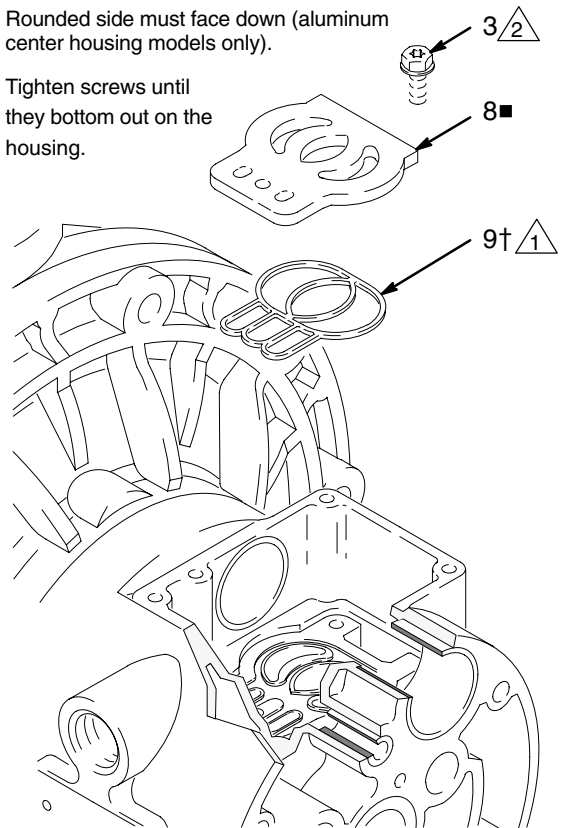

Fig. 10
5. Inspect the valve plate (8) in place. If damaged, use a Torx (T20) screwdriver or 7 mm (9/32 in.) socket wrench to remove the three screws (3). Remove the valve plate (8) and, on aluminum center housing models, remove the seal (9†). See Fig. 10.
2. On aluminum center housing models, install the valve plate seal (9†) into the groove at the bottom of the valve cavity. The rounded side of the seal **must face down** into the groove. See Fig. 10.
3. Install the valve plate (8■) in the cavity. On aluminum center housing models, the plate is reversible, so either side can face up. Install the three screws (3), using a Torx (T20) screwdriver or 7 mm (9/32 in.) socket wrench. Tighten until the screws bottom out on the housing. See Fig. 10.